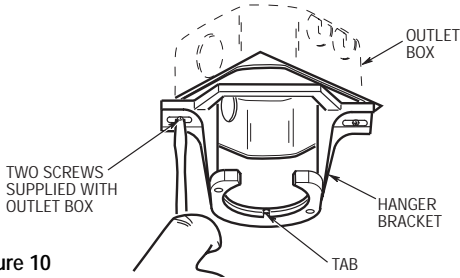
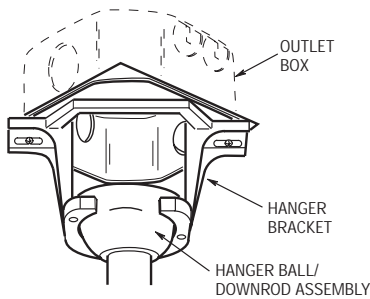

Figure 10
Figure 11
- 1. Securely attach the hanger bracket to the outlet box using the two screws supplied with the outlet box. (Figure 10.)
- 2. Carefully lift the fan and seat the hanger ball/downrod assembly on the hanger bracket that was just attached to the outlet box (Figure 11). Be sure the tab on the hanger bracket is seated in the groove on the hanger ball (Figure 10).